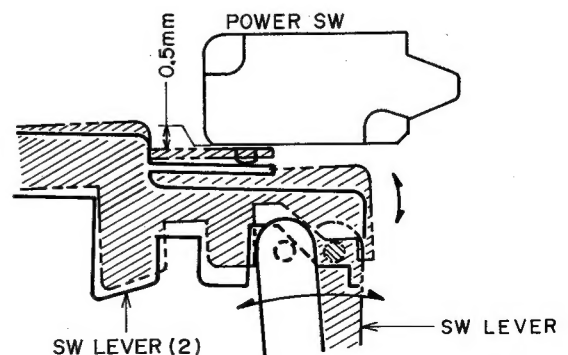

Fig. 5-5
- 4) When on start or on cut, the power SW is turned on by the SW lever (2). At this point make sure that the distance between the SW lever (2) and the power SW is less than 0.5 mm as in Fig. 5-5. This distance can be adjusted by loosening the screw which fixes the power SW and by moving the position of the SW back and forth until the correct distance is achieved. When the player is turned on and off manually, the distance should also be between 0.1 mm and 0.5 mm.
6) With the start operation, the main gear will rotate once and the SW lever (2) will return to the stop position. In order to keep power SW on, the switch lever moves in accordance with the position of the tone arm as in Fig. 5-5 and keeps the power SW in the on